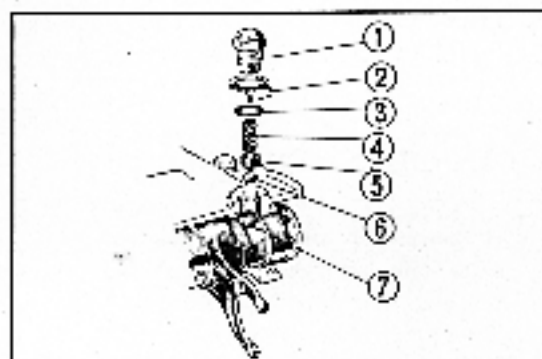

Fig. 128 ① Guide screw ② Spring
3. Place the counterbored section of the shift drum as shown Fig. 128, and install the steel ball, the spring cap, and the spring then lock with the shift drum screw.